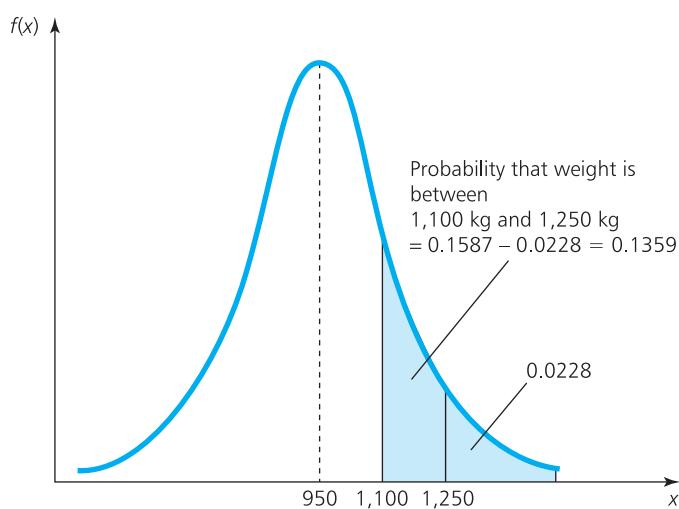

Figure 15.15 Probabilities for part (c) of worked example 15.14
- (c) Because the tables show only probabilities under the tail of the distribution, we often have to do some juggling to get the values we want. There is often more than one way of doing the calculations, but they should all give the same results. Here we want the probability that the weight is between 1,100 kg and 1,250 kg (as shown in Figure 15.15). For this we can say that: